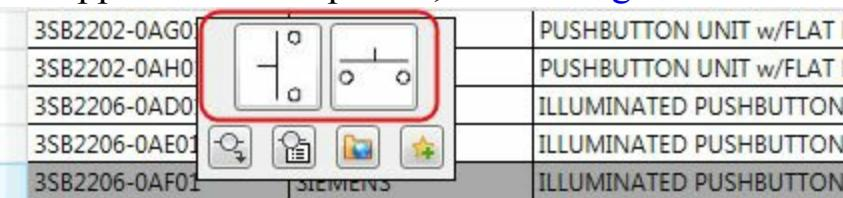

Figure-23. Symbols mapped to component
- If you again go to **Catalog Browser** and click on the same component, then you will get symbols mapped to the component; refer to Figure-23.